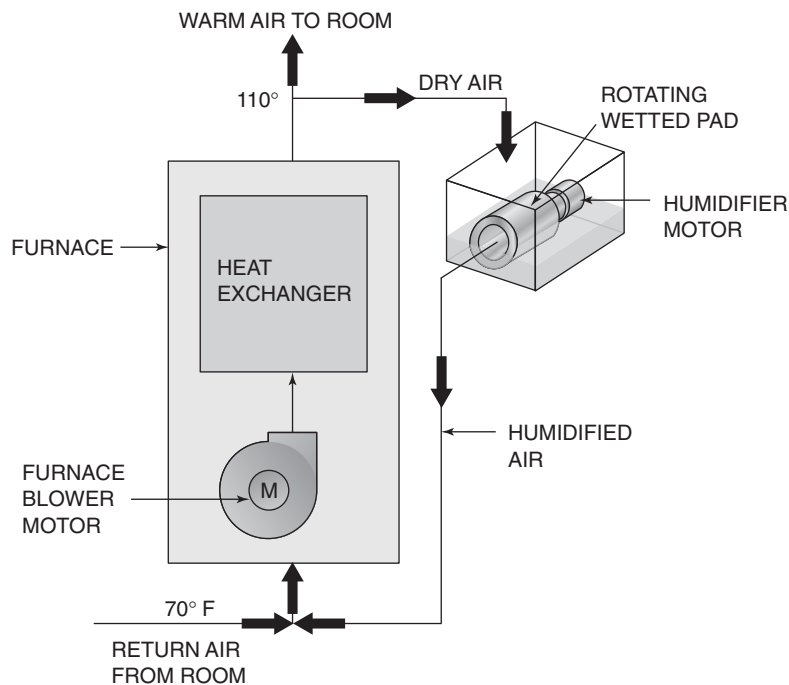

FIGURE 28-7 Residential humidifier.
Figure 28-7 shows a typical residential humidifier. On this type of system, the furnace motor pushes air through the furnace heat exchanger, where it is warmed and delivered to the room. But a small portion of the supply air is diverted to flow to the humidifier, where it passes over a wetted pad and then back to the return air side of the furnace. A small motor in the humidifier causes the wetted pad to
2. Figures 28-7 and 28-8 refer to residential humidifier circuits used in heating applications. If the same system with an evaporator above the heat exchange were used for cooling, which fan speed would provide for dehumidifying?
4. Referring to Figure 28-7, when the room humidity reaches the selected humidity, what action prevents the humidity from increasing above the selected value?